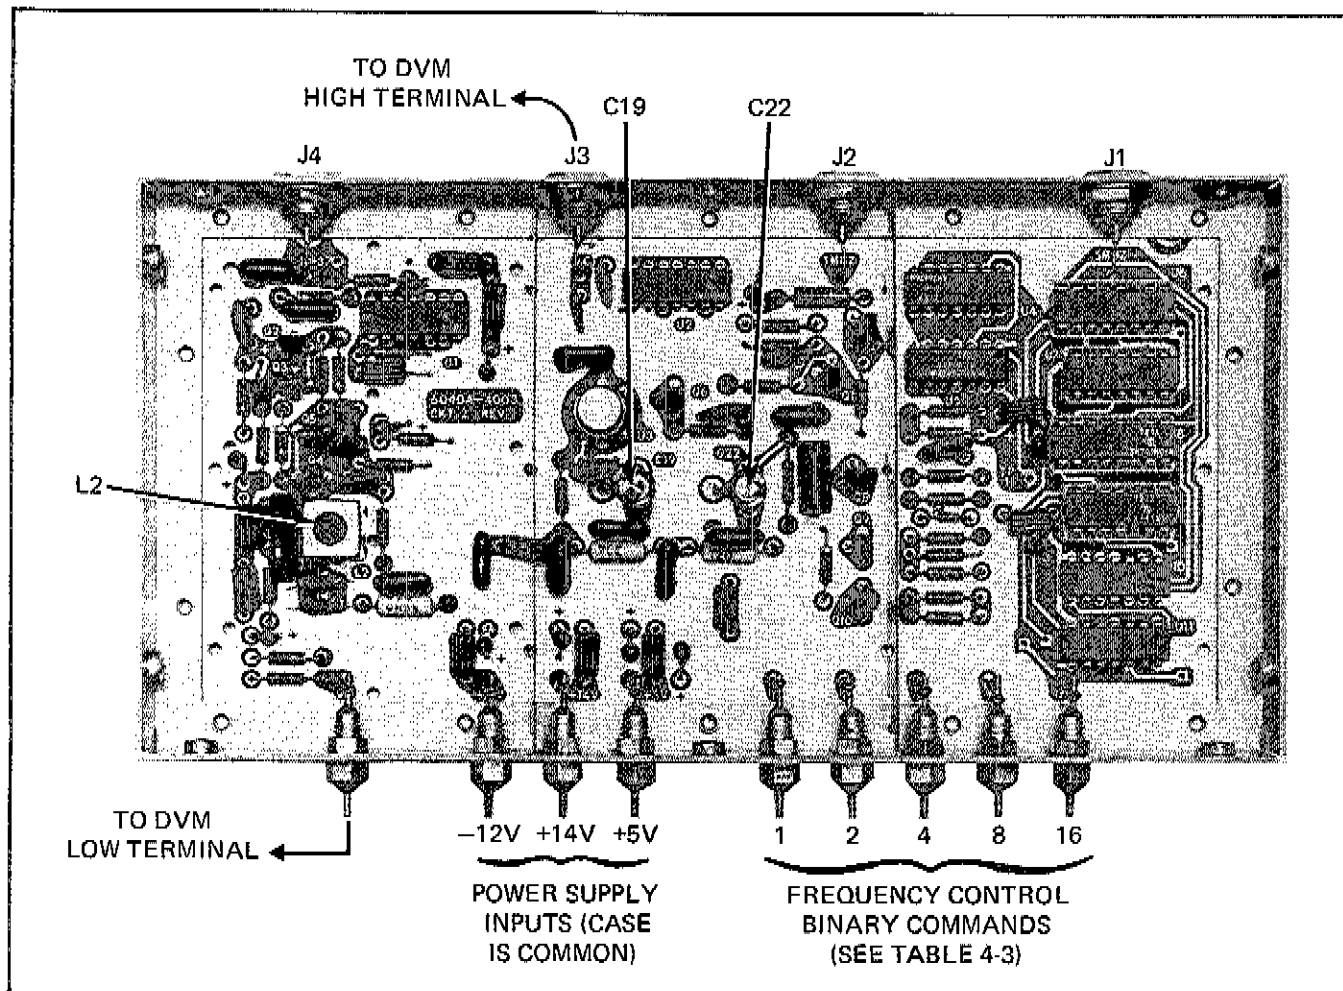

Figure 4-8. 1 MHz STEP LOOP (6160B-4153-1) ADJUSTMENT LOCATION AND DVM CONNECTION
- d. Connect DVM set for dc measurement to points indicated in Figure 4-8. Adjust L2 (See Figure 4-8 for location) for DVM indication within +1.49 Vdc to +1.51 Vdc.
- j. Program STP LP for 18 MHz and adjust C22 (See Figure 4-8 for location) for minimum upper 2 MHz sideband at center of display. (Spurious should be  $\leq -90$  db from fundamental).
- l. Adjust C19 (See Figure 4-8) for minimum upper 1 MHz sideband at center of display on spectrum analyzer. (Spurious should be  $\leq -70$  dB from fundamental).